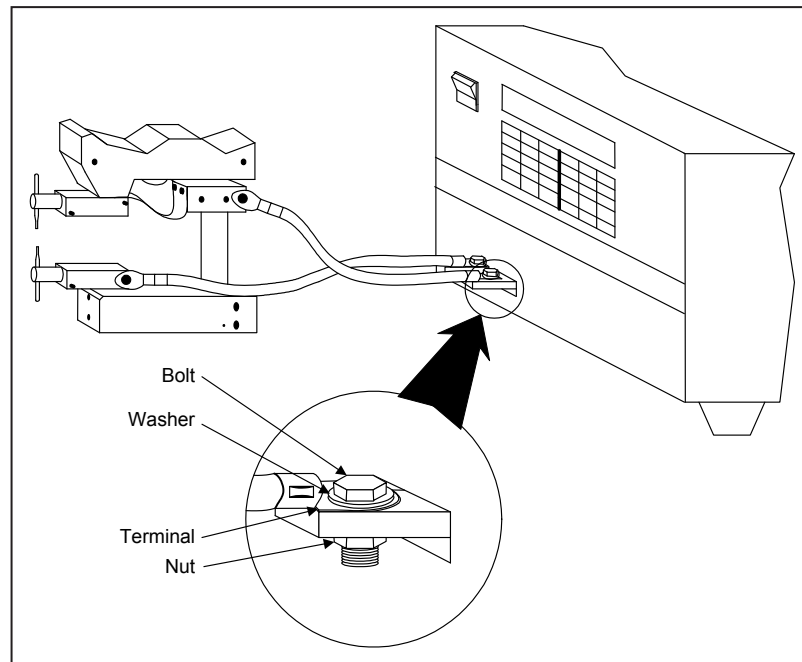

Figure 2-2. Correct Terminal Connection
- c Bolt terminals together, DO NOT place washers between the terminals of the power supply and the terminals of the cables. Tighten connections securely, they must be free from oxidation, dirt and/or grease. See figure 2-2.